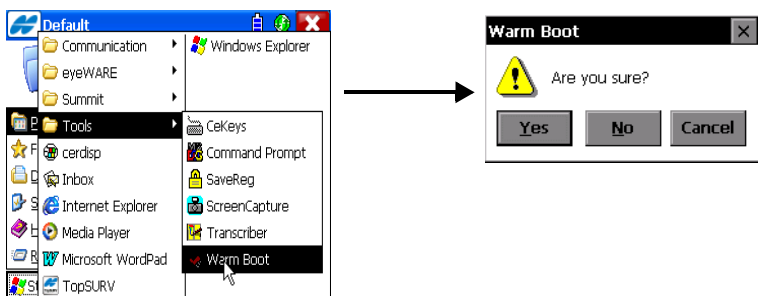

Figure 2-8. Confirmation Dialog Box
1. Tap **Start ▶ Programs ▶ Tools ▶ Warm Boot**. The **Warm Boot** confirmation window displays (Figure 2-8).